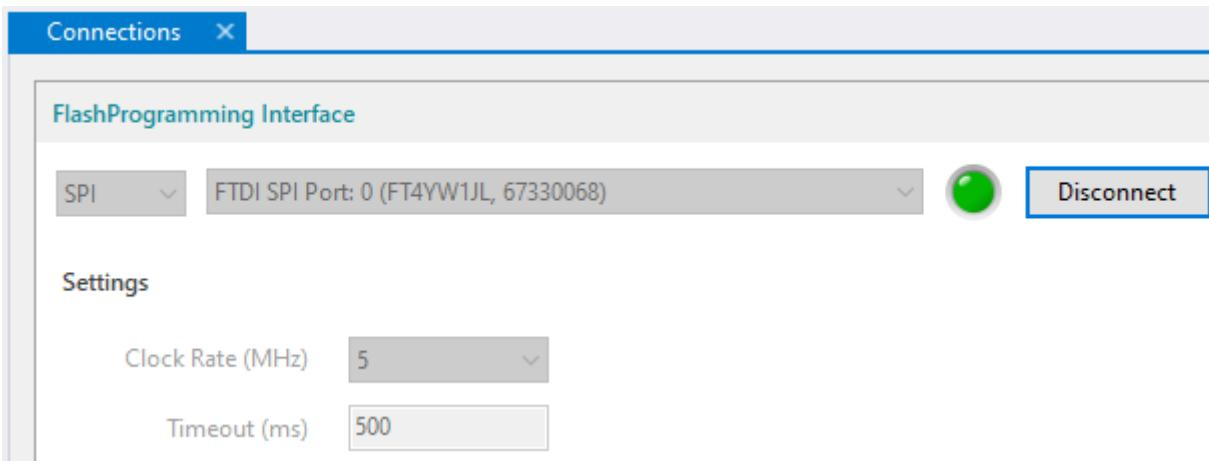

Figure 4-9. DLP Composer - Connections
6. Navigate to the Connections tab. Set to *SPI* and *FTDI SPI Port*, then click the *Connect* button. The virtual green LED should illuminate to indicate a successful connection as shown in **Figure 4-9**.